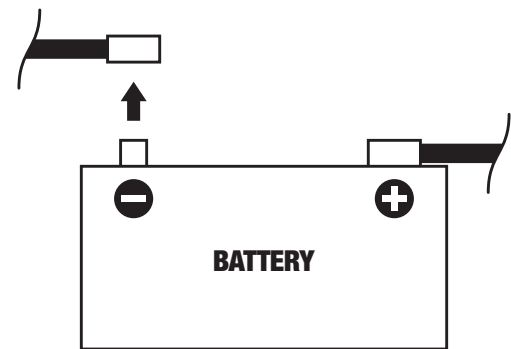

Figure 1
- To prevent short circuiting, disconnect battery's negative terminal before beginning installation (Figure 1).